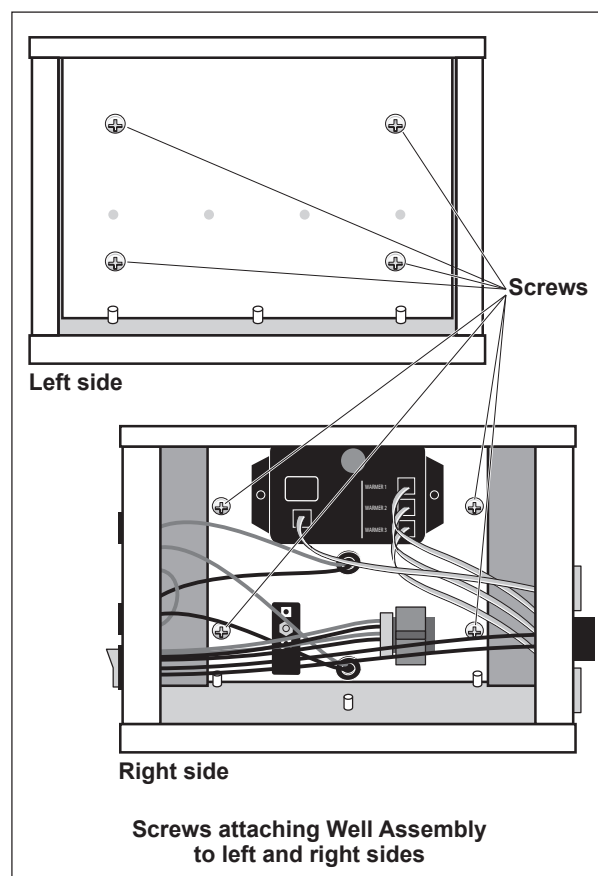

Figure 31. Screws Attaching Well Assembly to Left and Right Sides
9. Remove the two screws on both the left and right sides that secure the upper or lower heater assembly as applicable. See Figure 31.